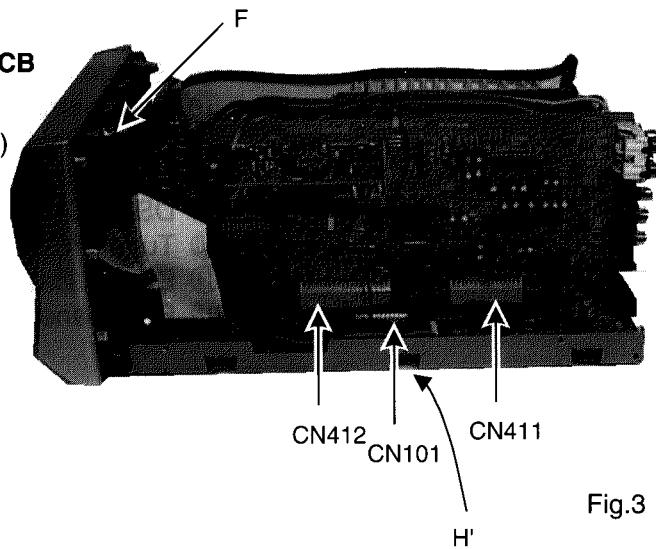

Fig.3
2. Remove the screw H' (Fig.3). (Universal type only)
2. Remove screws(F)fastening Earth wire of the up side(Fig3).